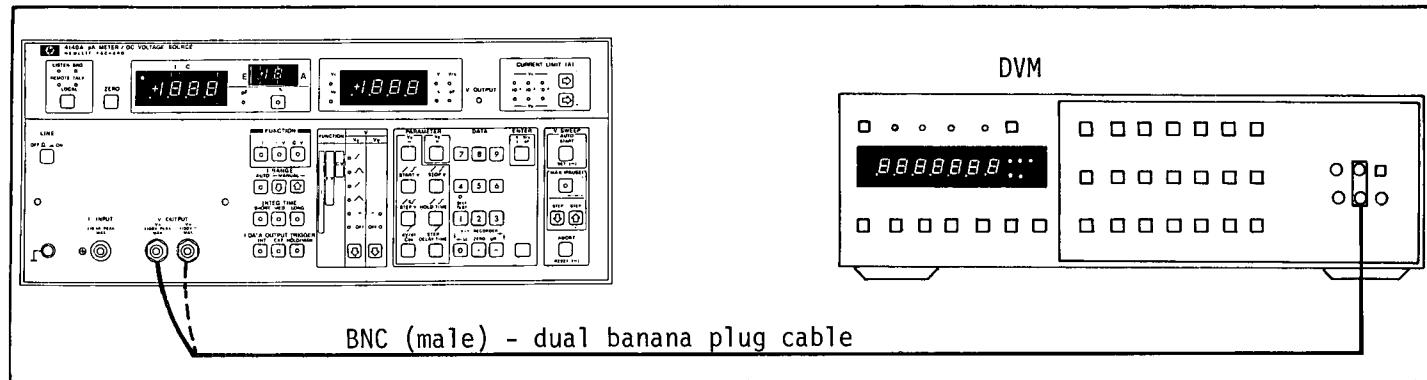

Figure 4-1. Voltage Output Accuracy Test Setup.
1. Connect BNC (Male) - dual banana plug cable between 4140A VA OUTPUT connector and DVM (see Figure 4-1).